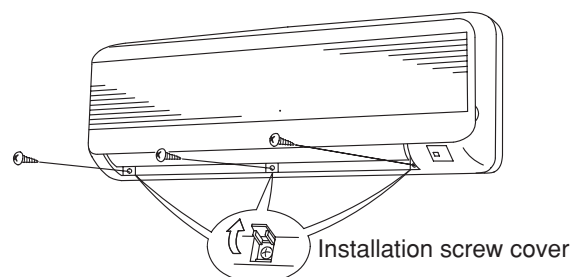

Fig. 3-23
- (3) Adjust the flap so that it is horizontal. (Fig. 3-23)
- (4) Open the installation screw covers below the grille (3 locations). (Fig. 3-23)
- (5) Remove the screws. (Fig. 3-23)